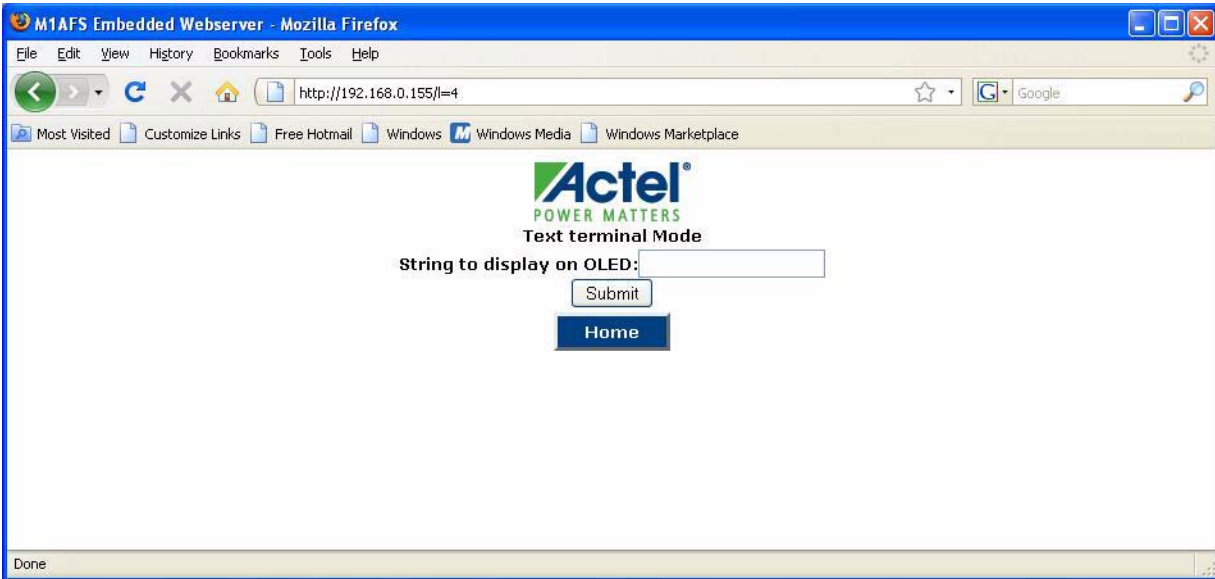

Figure 2-25 · Text Terminal
3. Press **Enter** or click **Submit** (Figure 2-25). The OLED displays the string you have entered.